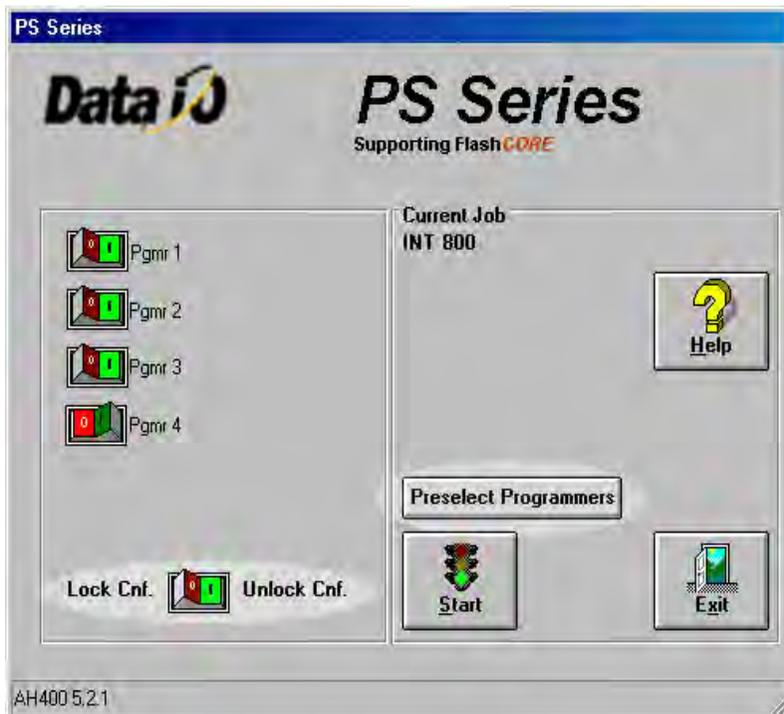

Figure 3-24—Programmers selected
- 1c) Click the **I** (green) side of the toggle switch to enable a programmer. Click the **O** (red) side of the toggle switch to disable a programmer. In *Figure 3-24*, programmers 1, 2, and 3 are enabled, and programmer 4 is disabled.